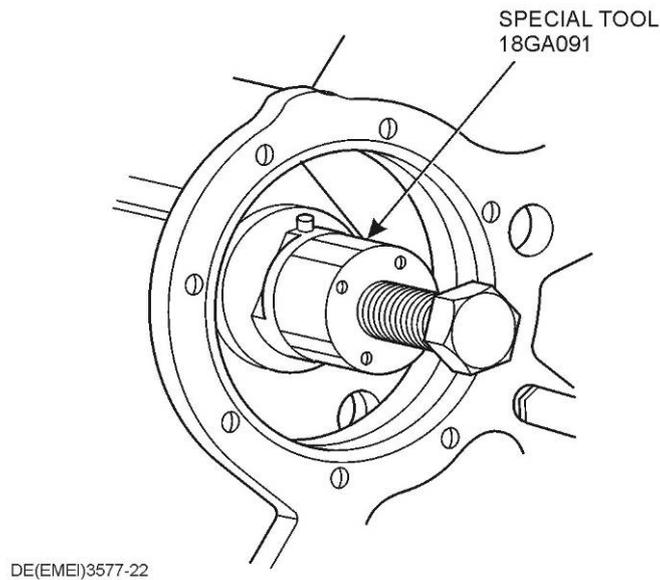

Figure 89 Removal of the Transfer Gear and Spacer
- n. Remove the transfer gear and spacer. If required use special tool 18GA091 (Figure 89).